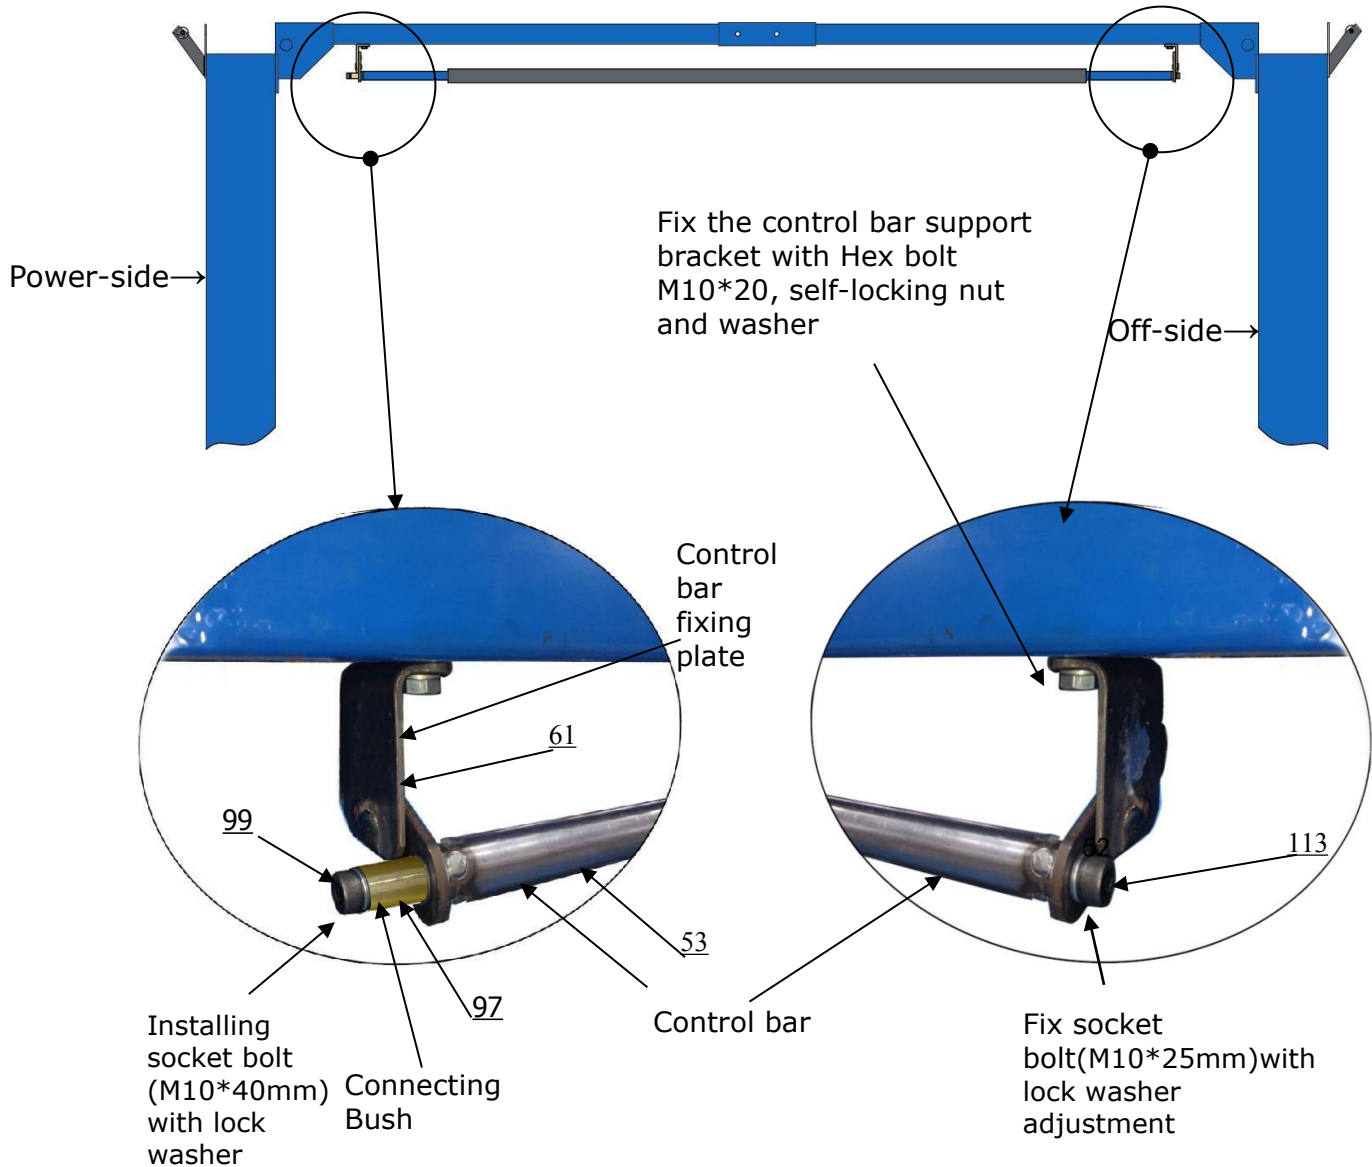

Fig. 23
I. Installing the limit switch control bar and limit switch (See Fig. 23、 Fig. 24).